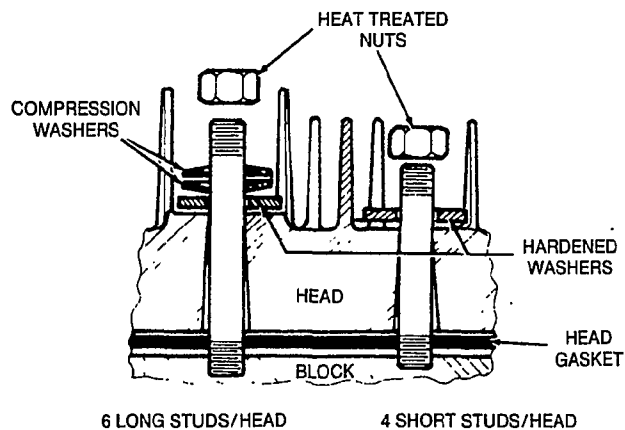

FIGURE 29. CYLINDER HEAD WITH COMPRESSION WASHERS
2. Install a flat washer, two compression washers, and nut on each of the top six studs (Figure 29 for correct sequence). When properly installed, only the outside edges of the compression washers will be in contact with each other. Install a flat washer and nut on each of the four bottom studs.